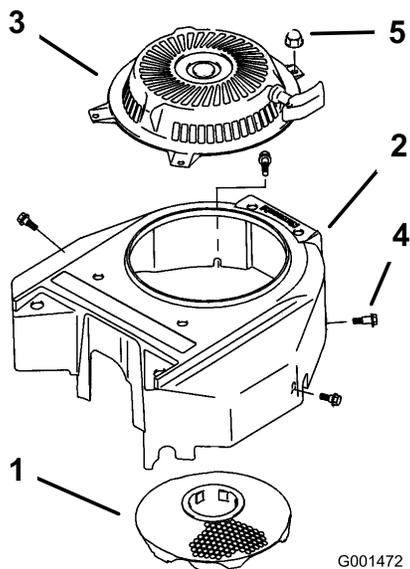

Figure 38
3. Remove the air intake screen, recoil starter and fan housing (Figure 38).
5. Install air intake screen, recoil starter and fan housing (Figure 38).